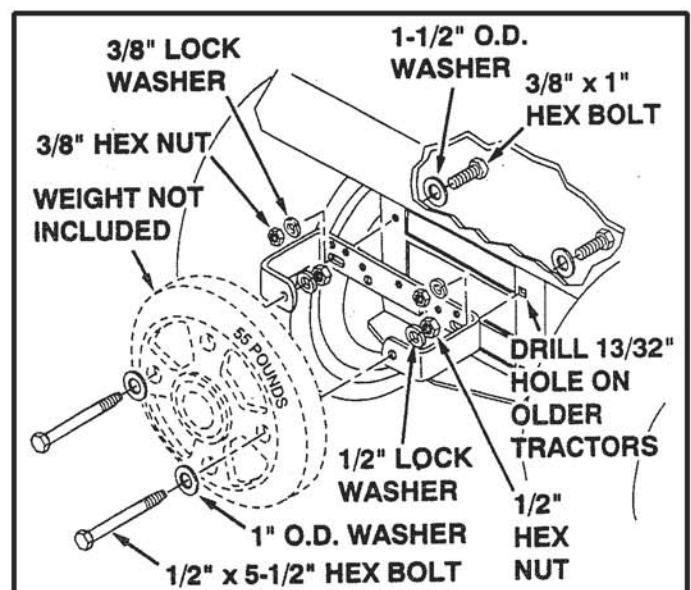

FIGURE 3
1. Assemble two 1-1/2" O.D. flat washers (Ref. J) onto two 3/8-16 x 1" hex bolts (Ref. G). Insert bolts through drawbar and assemble weight bracket onto bolts. Fasten securely with two 3/8" lock washers (Ref. H) and two 3/8-16 hex nuts (Ref. I). See figure 3.
2. Assemble wheel weight to mounting bracket using two 1/2" x 5-1/2" long hex bolts (Ref. A), two 1" O.D. flat washers (Ref. B), two 1/2" lock washers (Ref. C), and two 1/2-13 hex nuts (Ref. D). Tighten securely. See figure 3.